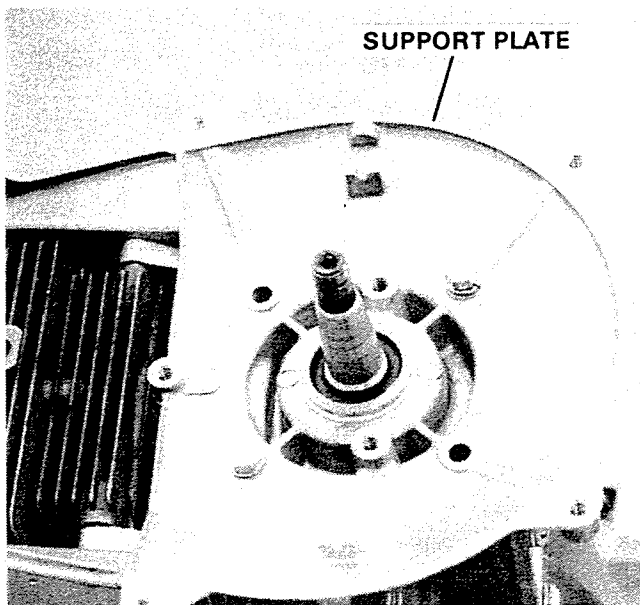

Figure 23. Installing Support Plate.
3. Secure support plate to cylinder block with four (4) screws tightened evenly to 70-85 in. lbs. (80-97 kg/cm). Figure 23.